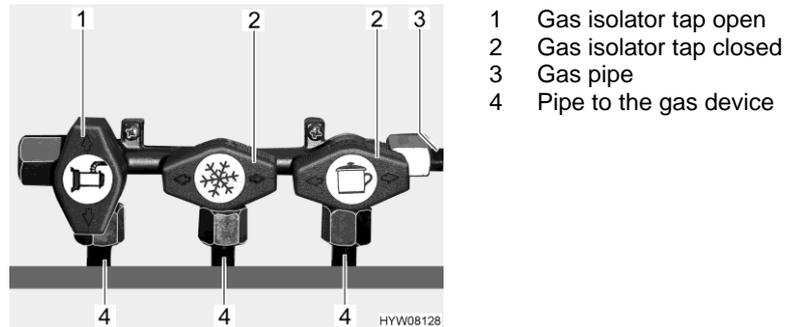

Fig. 115 Gas isolator taps position (example)
- Position the gas isolator tap of the corresponding gas device parallel (Fig. 115,1) to the pipe (Fig. 115,4) leading to the gas device.
- Position the gas isolator tap of the corresponding gas device transverse (Fig. 115,2) to the pipe (Fig. 115,4) leading to the gas device.